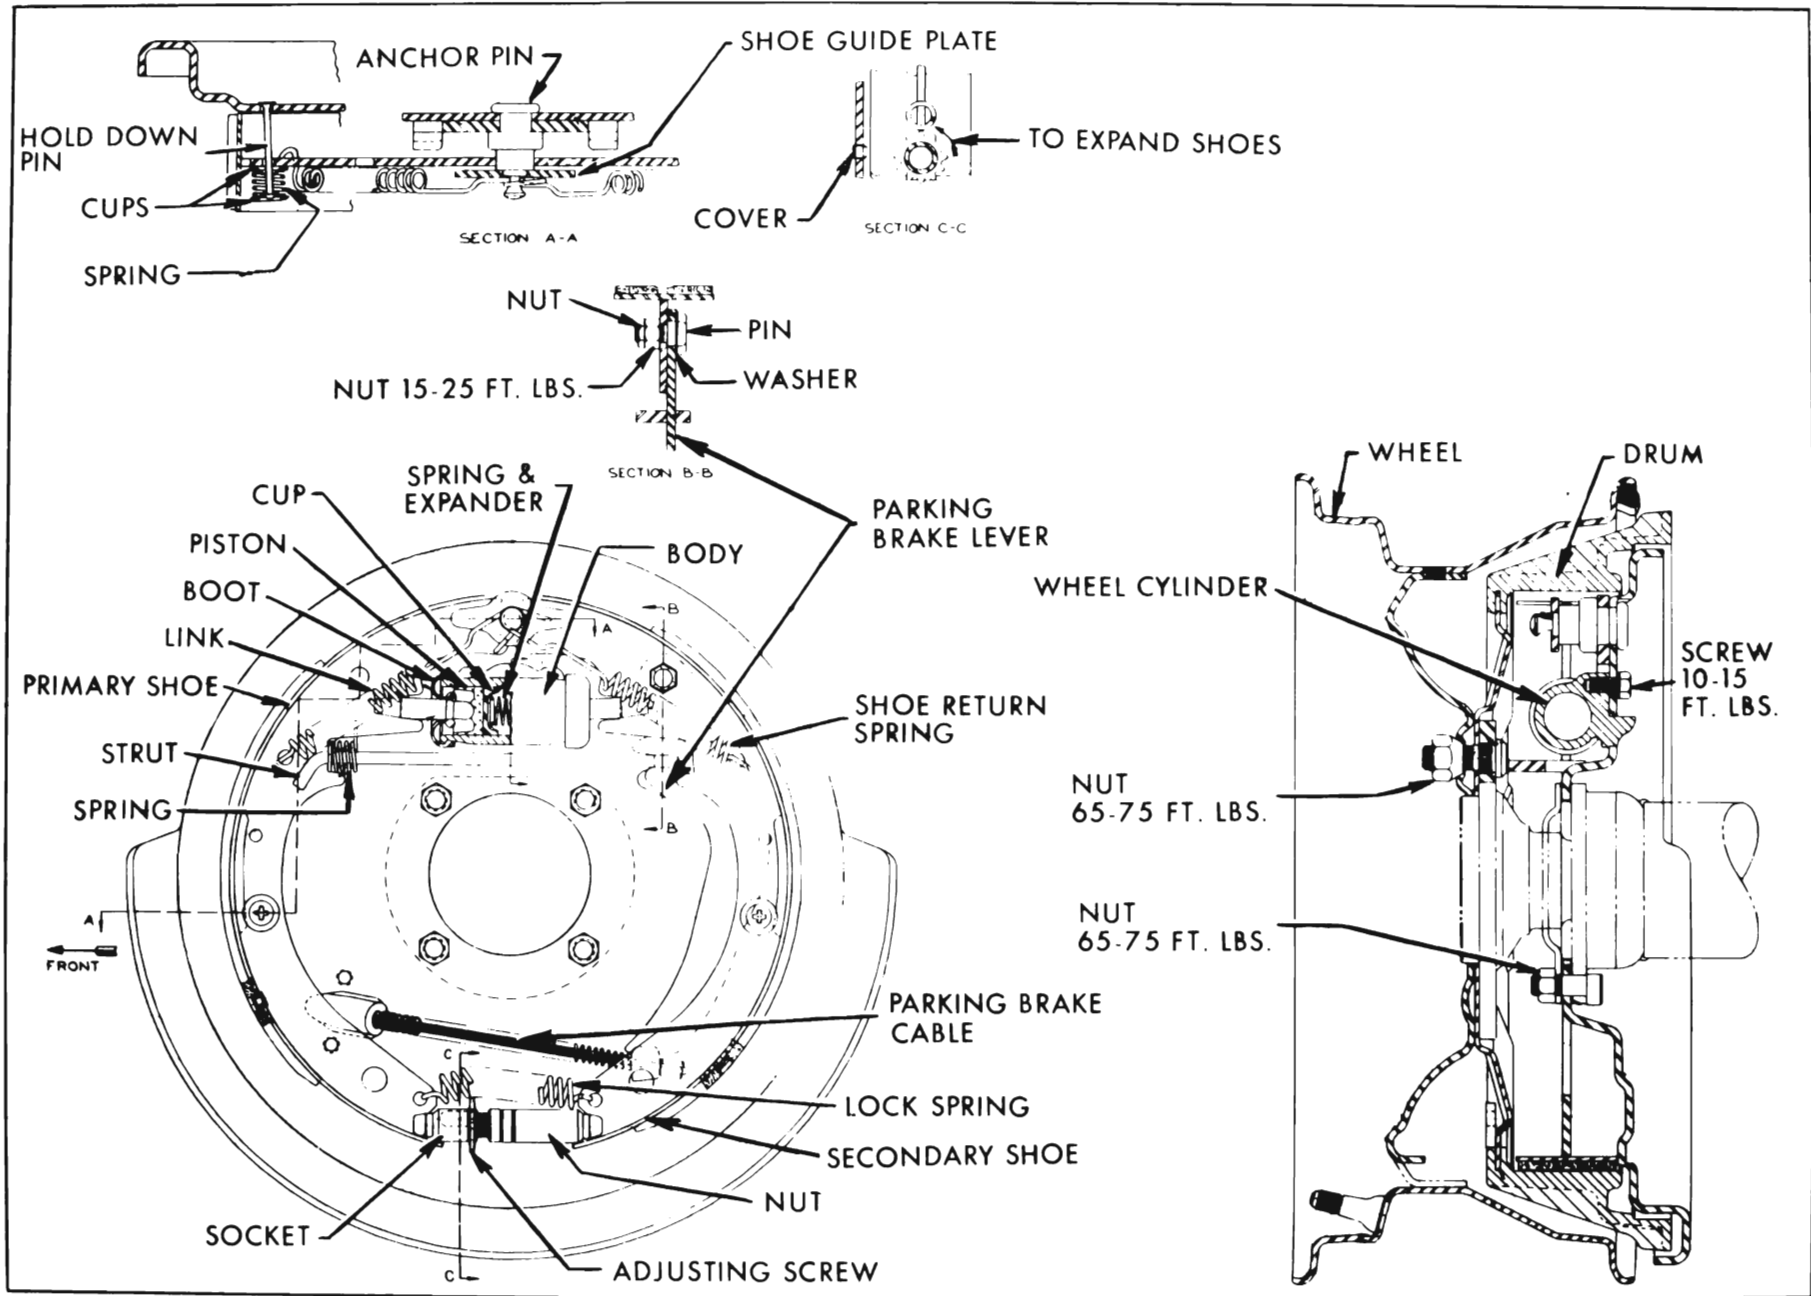

Figure 9-11—Rear Wheel Brake Assembly—Left
2. Unhook shoe return springs using large pliers. Remove shoe hold down springs, spread shoes to clear wheel cylinder connecting links, remove parking brake strut (rear only), and remove shoes from backing plate. Disconnect cable from parking brake lever (rear only). See Figure 9-11.
1. On rear brakes only, lubricate fulcrum end of parking brake lever and the bolt with Bendix or Delco Brake Lubricant, or Lubriplate, then attach lever to secondary shoe with bolt, spring washer, nut, and Pal nut. Make sure that lever is free moving. See Figure 9-11.
4. Attach brake shoes to backing plate with hold down springs, pins, and cups, at the same time engaging shoes with wheel cylinder connecting links. The primary shoe (short lining) goes forward. On rear brakes, connect cable to parking brake lever and install strut between lever and primary shoe as installation is made. See Figure 9-11.